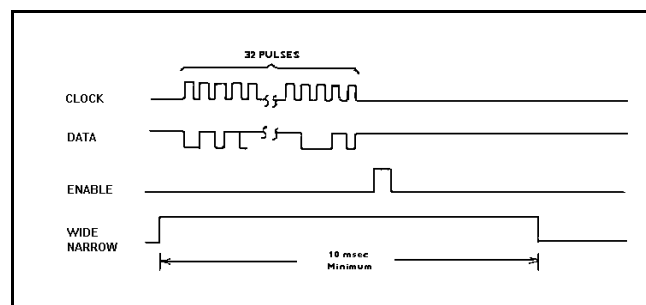

Figure 2 - Clock, Data, Enable, and Wide/Narrow Signals
- g. Verify that the CLOCK, DATA, ENABLE and WIDE/NARROW signals coming from the Control Board are at the proper level and the proper duration (refer to Figure 2).